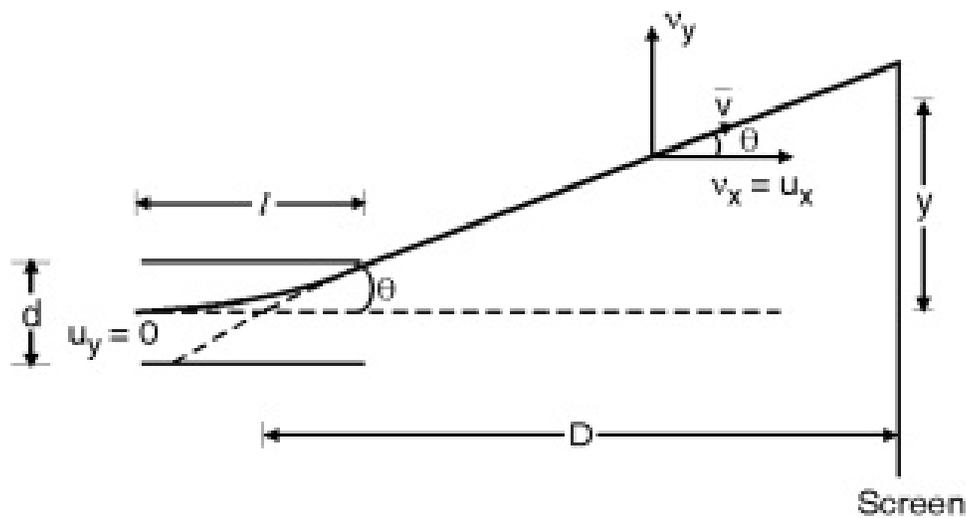

Fig. 7.2.1
- In Fig. 7.2.1 we have two plates with length 'l' and separated by a distance 'd'. The upper plate is having positive charge and the lower plate is having negative charge.
- The path of electron will become parabolic till it takes an exist and later move on straight line path with velocity v , (with $u_x = v_x$) and hit the screen at deflection 'y' as shown in Fig. 7.2.1.
\therefore From Fig. 7.2.1